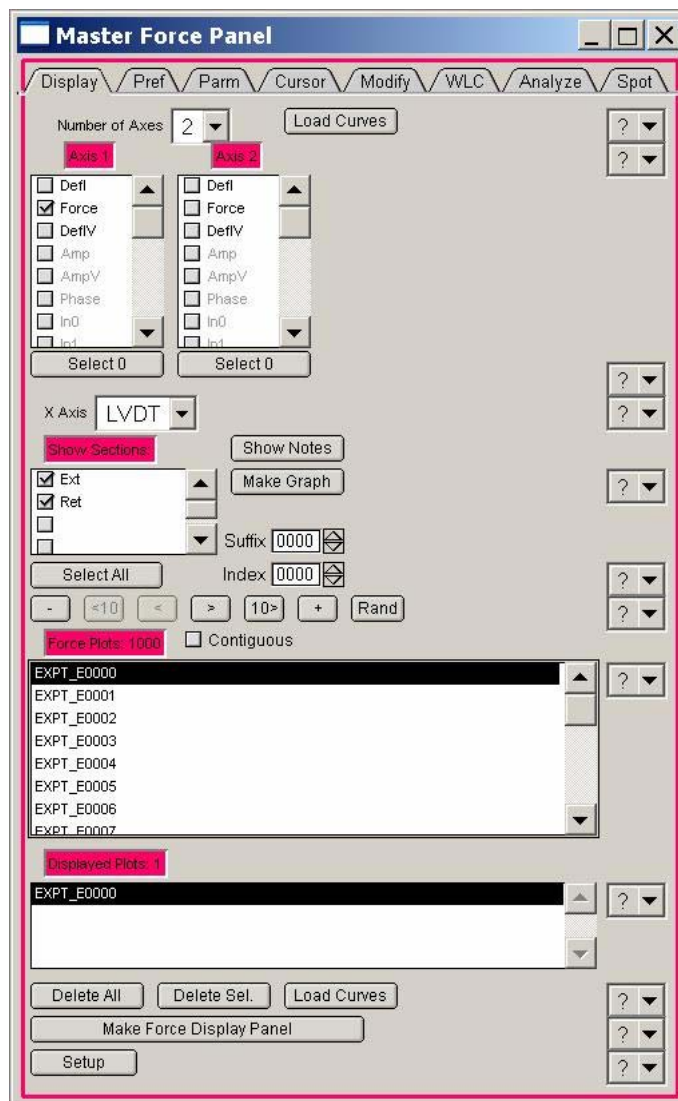

Figure 40: Master Force Panel
- In the Force tab of the Master Panel, clicking the 'Review' button brings up the Master Force Panel (Figure 40).